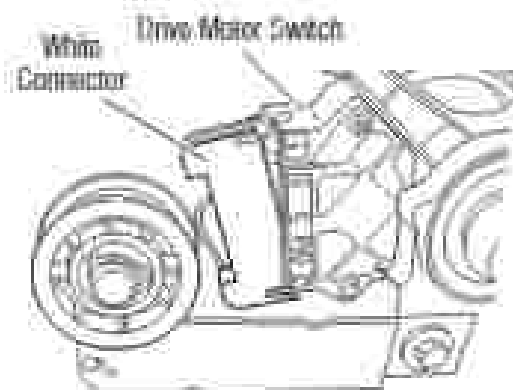

Figure 2 - Remove white connector.
8. Remove the white connector from the drive motor switch. See Figure 2.